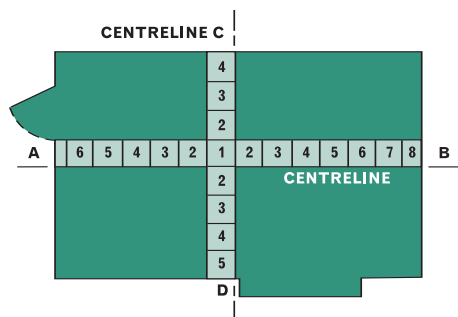

Figure 11 Laying out vinyl tiles
E. Loose lay tiles away from the centrelines C-D and check that no small strips will have to be laid. Adjust centreline C-D as described for A-B. In Figure 11, by moving the centreline C-D towards